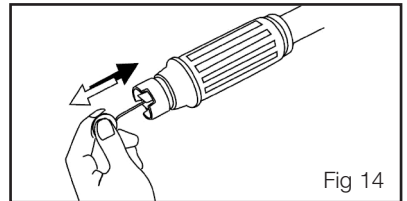

Fig 14
See Fig 14
2. Remove dirt from the nozzle hole with the needle supplied and rinse it with water. (Fig 14).